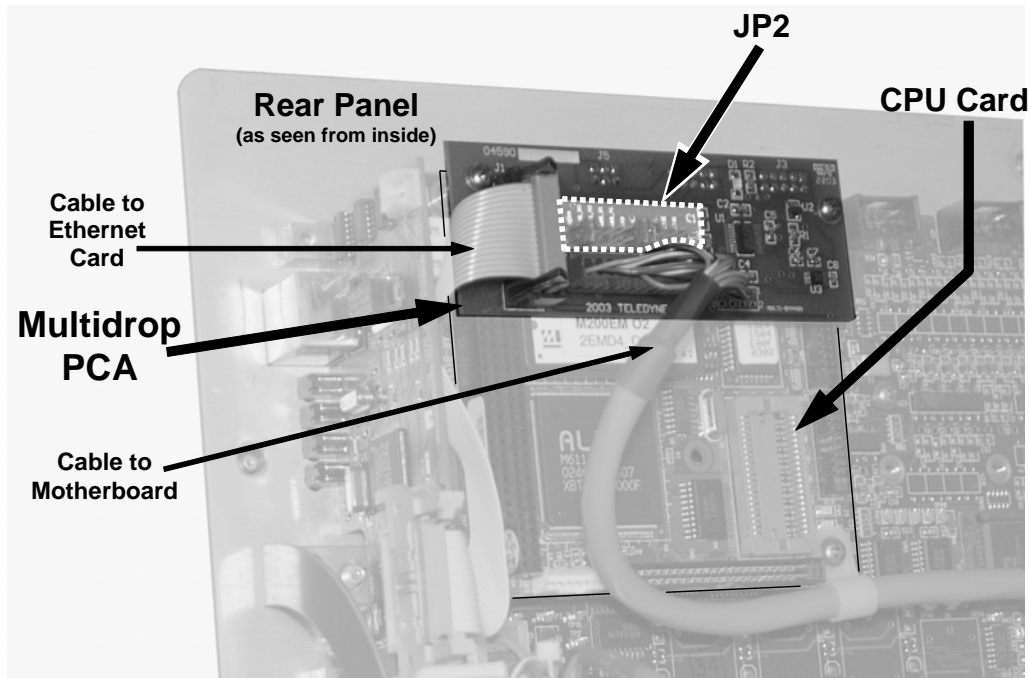

Figure 6-13: Location of JP2 on RS232-Multidrop PCA (option 62)
5. Remove the top cover (See Section 3.1) of the analyzer and locate JP2 on the multidrop PCA (see Figure 6-13)